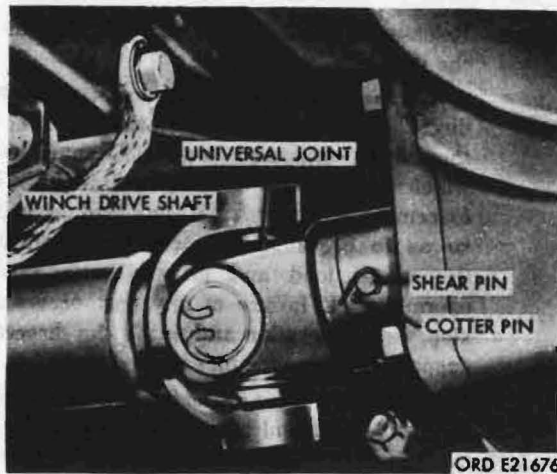

Figure 111.1. Replacing shear pin.
g. Shear Pin Replacement. When the shear pin fails, slide the universal joint along the winch drive worm shaft to expose the shear pin hole. Remove the broken parts of the shear pin. With the universal joint in position, lubricate and insert a new aluminum alloy shear pin. Install two cotter pins (fig. 111.1). Check the stop collar adjustment *h* below.